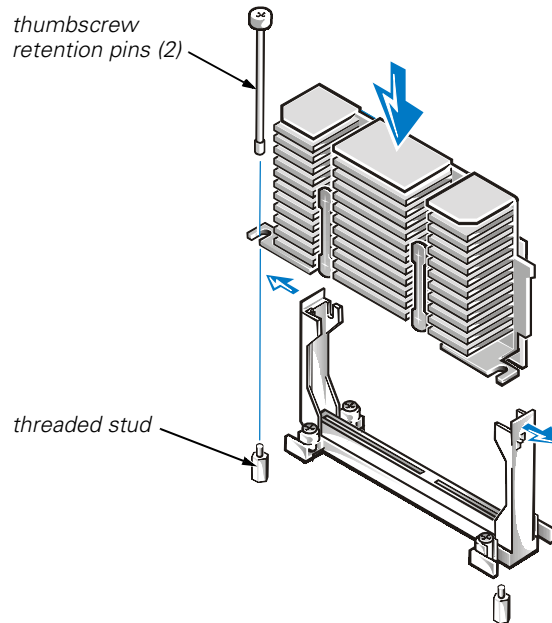

Figure 1-3. Installing an SEC Cartridge and Heat Sink Assembly
- b. Slide the SEC cartridge into the guide bracket assembly, and firmly seat the assembly until the tabs on the guide bracket assembly snap into place over the ends of the heat sink (see Figure 1-3).